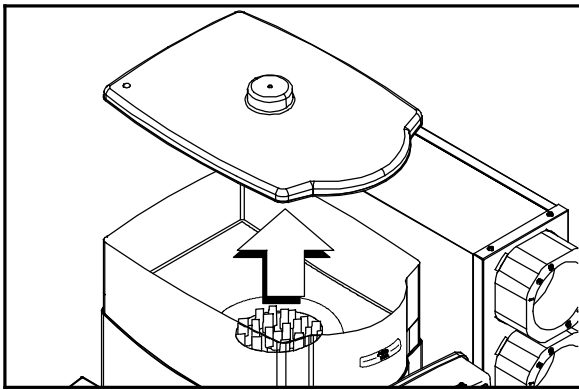

Figure 8
3. Remove the ice hopper cover. (See Figure 8.)